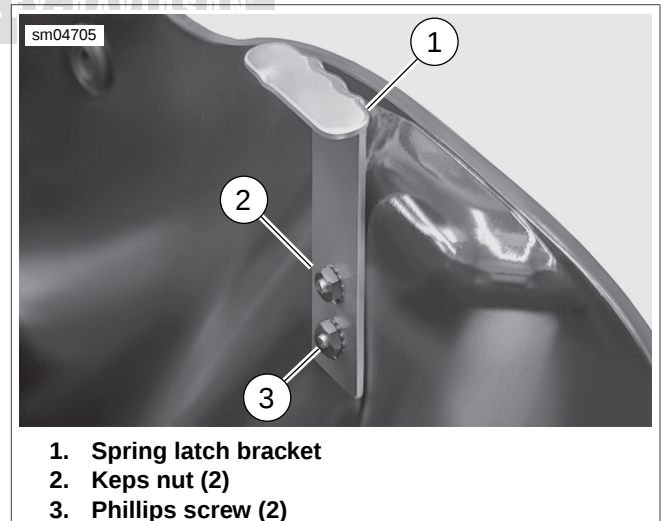

Figure 2-15. Spring Latch Bracket
2. Inside saddlebag, remove two Keps nuts and spring latch bracket. Remove Phillips screws. See Figure 2-15.
2. Inside saddlebag, install spring latch bracket and two Keps nuts. See Figure 2-15.